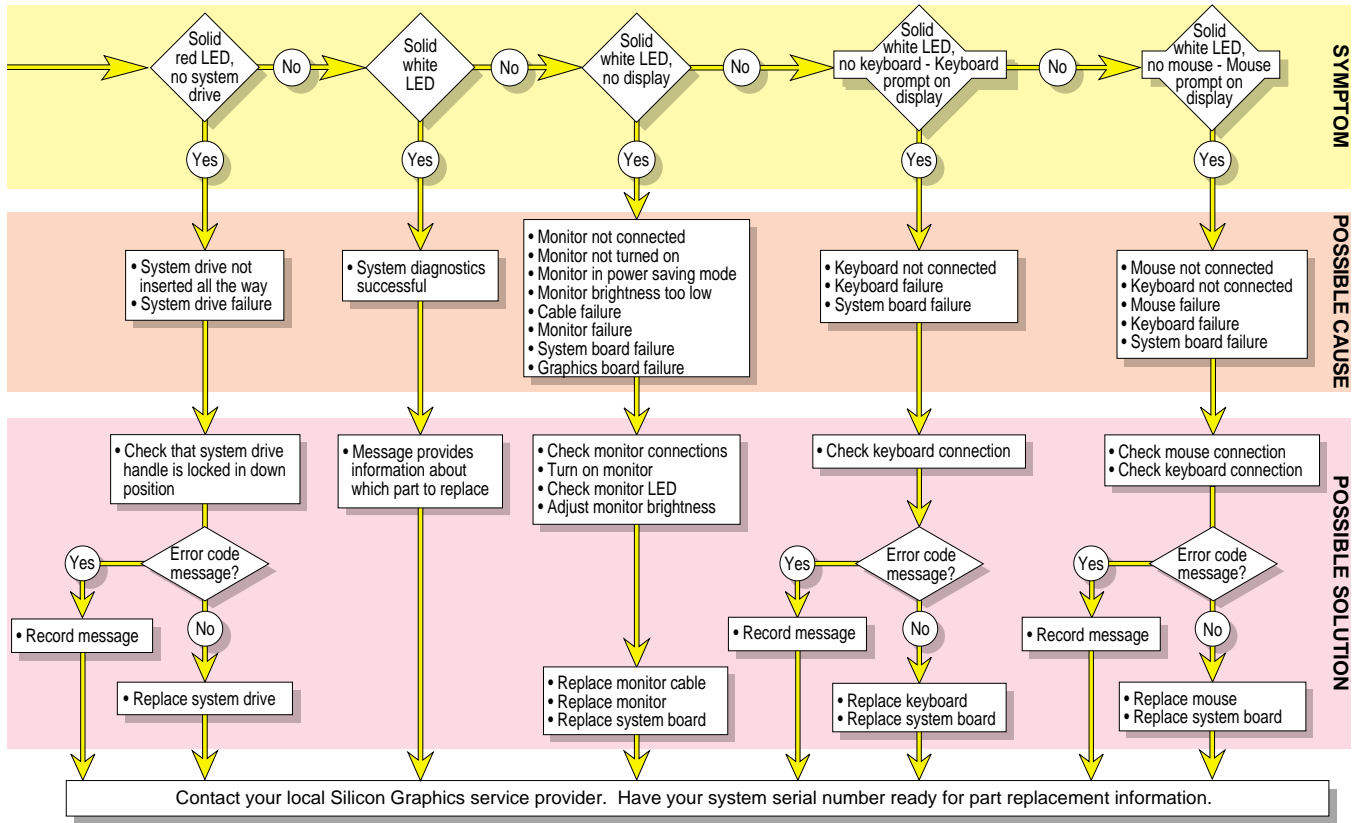

Figure 8-3 Lightbar LEDs - Front of OCTANE, Diagnostic Chart #3
- Lightbar LEDs - Front of OCTANE, Diagnostic Chart, Figure 8-3